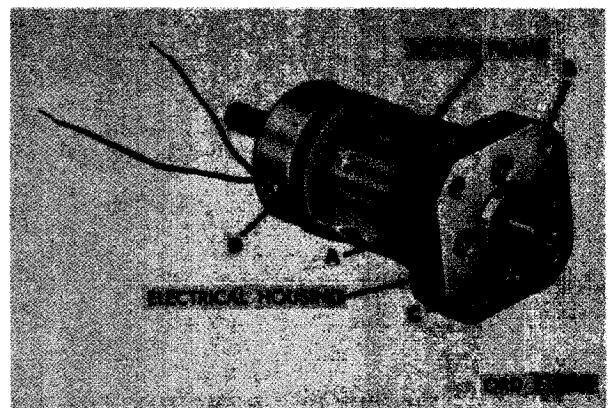

FIGURE 442. INSTALLING ELECTRICAL HOUSING.
- (3) Figure 442. (A) Install preformed packing as shown in figure 430 over base of electrical housing. (B) Position electrical housing so alignment mark, made at disassembly, aligns with the alignment mark on the motor frame. (C) Install four No. 4 x 3/4 pan-head machine screws and seals. (D) Position brushes in brush holder.